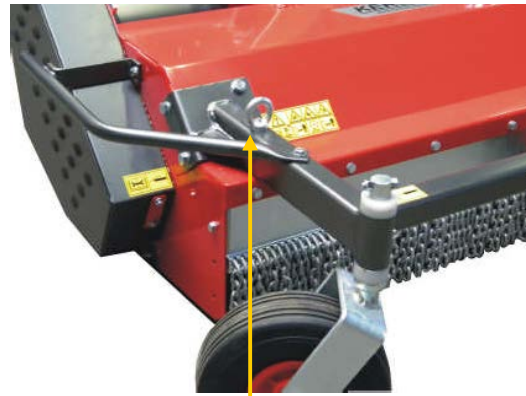

Figure 9.2
- On the handlebar pockets of the self-propelled implement (Fig.9.1, item 1) and on various attachments (Fig.9.2, item 1) there are ring eyes that can be used for lashing.